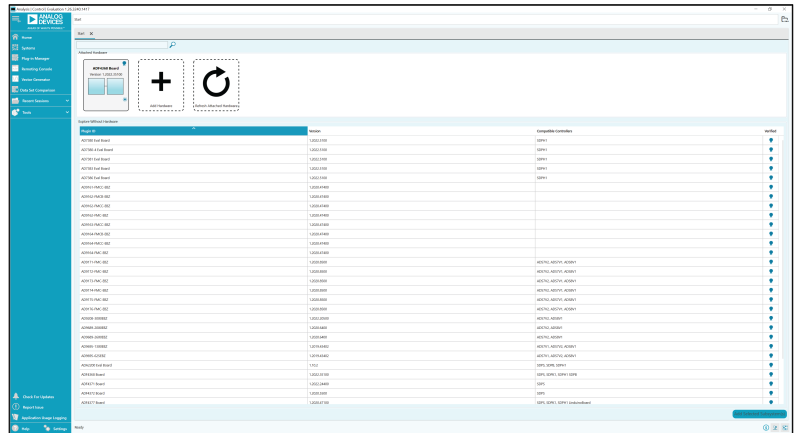

Figure 3. ACE Start Page, Attached Hardware (ADF4368 Board Button)
4. Check that the ADF4368 plugin appears when the EV-ADF4368SD1Z is attached through the system demonstration platform (SDP) connector to the PC, as shown in Figure 3.
2. On the **Select Device and Connection** tab, choose **ADF4368** and the EV-ADF4368SD1Z appears as shown in Figure 3 under **Attached Hardware**.
1. Launch the ACE application. With the SDP-S board connected to the EV-ADF4368SD1Z, the attached hardware appears in the graphical user interface (GUI), as shown in Figure 3.